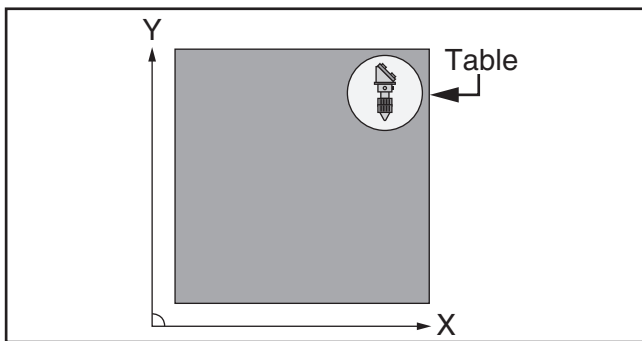

Figure 120. Laser head assembly in upper right corner of table.
1. Loosen (4) cap screws and remove (1) left laser tube cover to access secondary Mirror #1, then move secondary laser head assembly to upper right corner of table (see **Figure 120**).